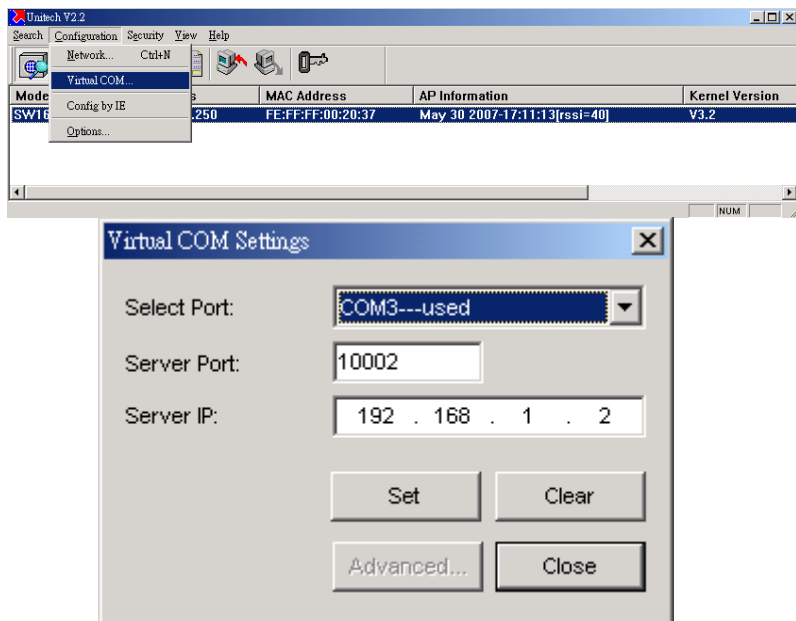

Figure 6 Virtual COM & TCP server Settings
- (1) Click "**Configuration**".
- (2) Select "**Virtual COM**" -> it will pop-up Virtual COM setting page (Figure 6).